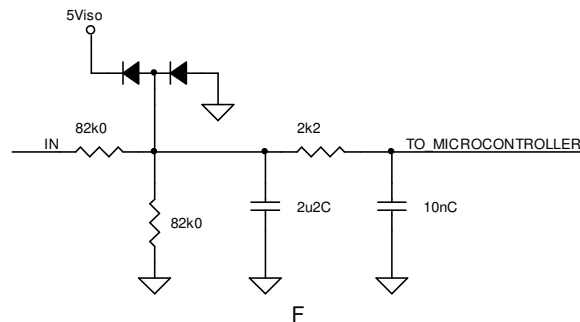

Fig. 5.6 - Input signal interface
Connect the INPUT (IN) signal to a 0-10V DC source with GND (-) as voltage reference. V+ provides a regulated voltage source of 10 V \pm 5% (16 mA max) to drive a potentiometer as shown in Fig. 5.6.